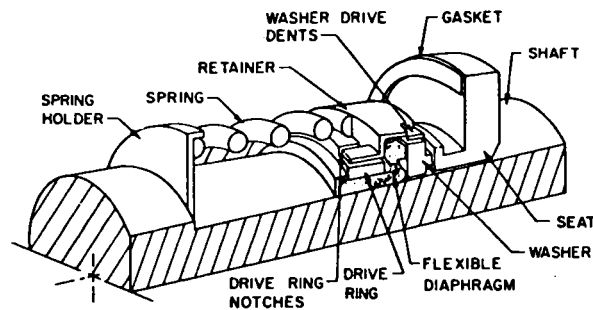

Figure 7.
8. Check the mechanical seal. Referring to Fig. 7, the flexible diaphragm must show evenly above the drive ring, and the drive lugs on the retainer must engage the drive ring to their full length. Adjust the mechanical seal if necessary.
10. Lubricate the threads and install the power rotor assembly into the outlet cover (001).